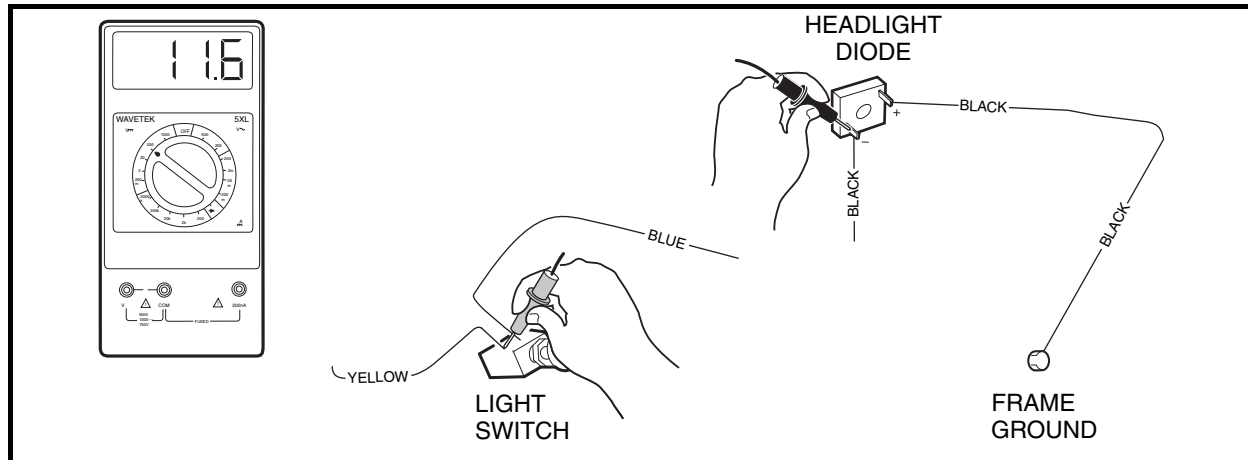

Figure 11-44 Headlight Diode Circuit Test
4. Using a multimeter set on 20 volts DC, connect the red (+) probe to the light switch terminal with the yellow wire (**Figure 11-44, Page 11-40**).
5. Loosen the black wire connector (on the end of the long black wire) at the headlight diode assembly just enough to maintain the connection and yet expose part of the metal terminal in the connector. Place black (-) probe on the connector (**Figure 11-44, Page 11-40**). **See following CAUTION.**